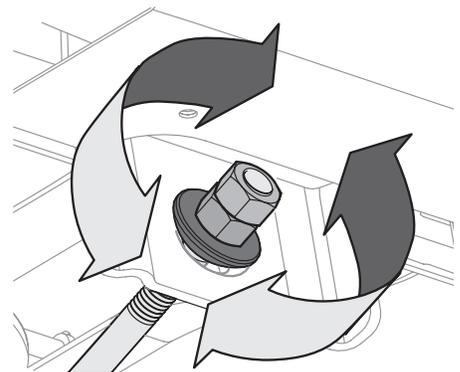

Figure 4-5
- To *raise* the front of the deck, loosen the outer nut then tighten (thread inward) the nut against the front hanger bracket. See Figure 4-5. When proper adjustment is achieved, re-tighten the outer nut to 25-30 ft.-lbs.